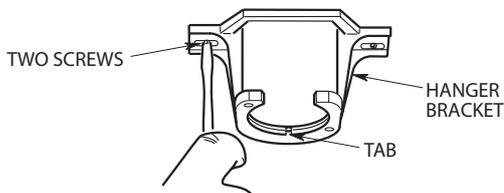

Figure 9
1. Securely attach the hanger bracket to the ceiling joist using the two screws supplied (Figure 9).
2. Carefully lift the fan and seat the hanger ball/downrod assembly on the hanger bracket that was just attached (Figure 9). Be sure the groove in the ball is lined up with the tab on the hanger bracket.